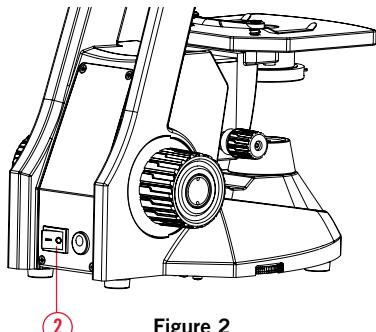

Figure 2
- Turn on the power switch at the back of the arm. (Figure 2)